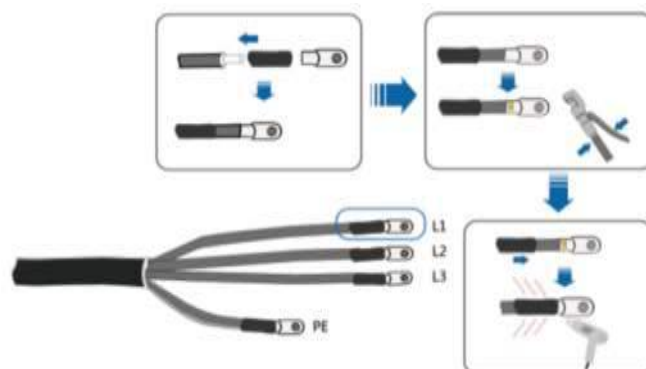

Fig. 4-32 Cable and crimp
- 5) Make the cable and crimp terminal (Fig. 4-32).